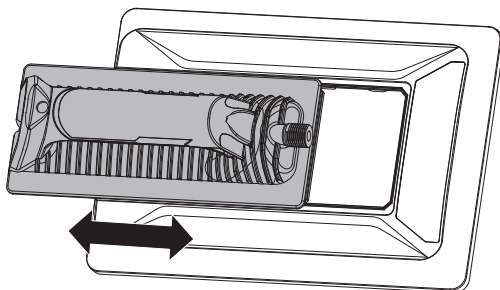

Figure 2
2. ATTACHING OR DETACHING THE LARGE STEAM PLATE (SEE FIG. 2)